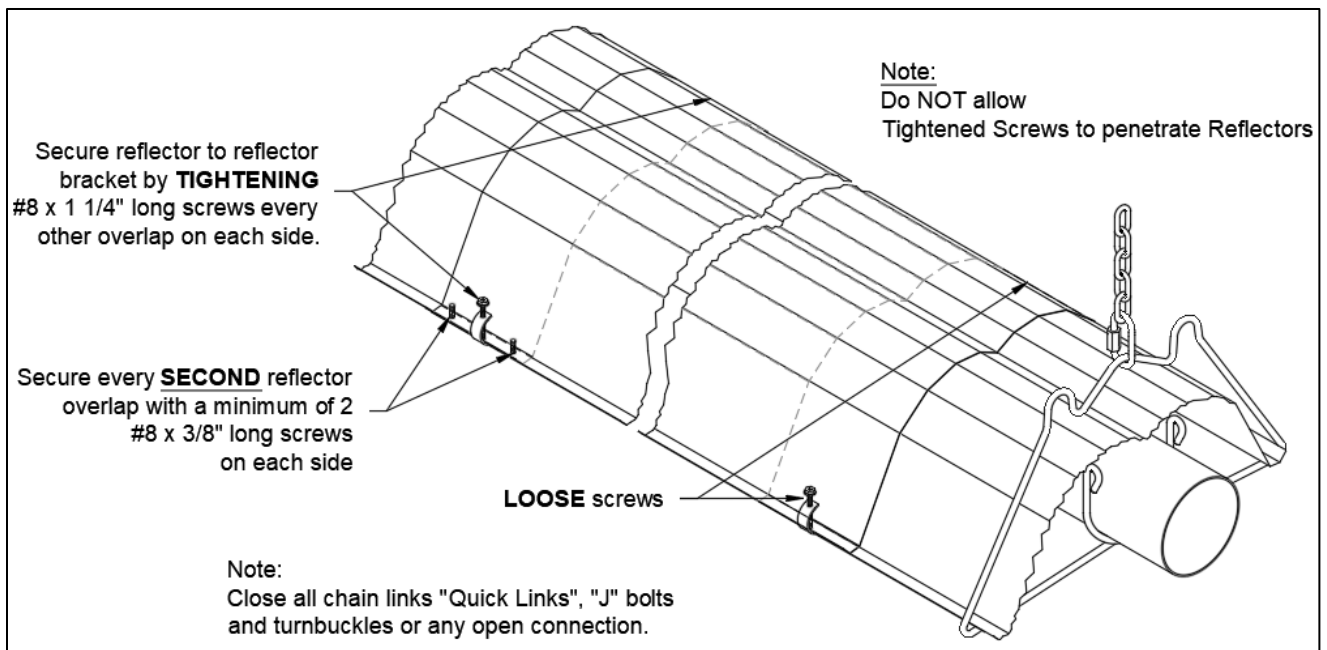

Figure 19: Reflector Supports Installation and Reflector Overlap
- Secure every second reflector overlap together with a minimum of 2 - #8 x 3/8" long screws (not supplied), and secure reflector to the reflector bracket at this point by tightening down #8 x 1 1/4" screws supplied with reflector brackets (Figure 19). The remaining reflector overlap joints and reflector brackets are left loose to accommodate system movement.